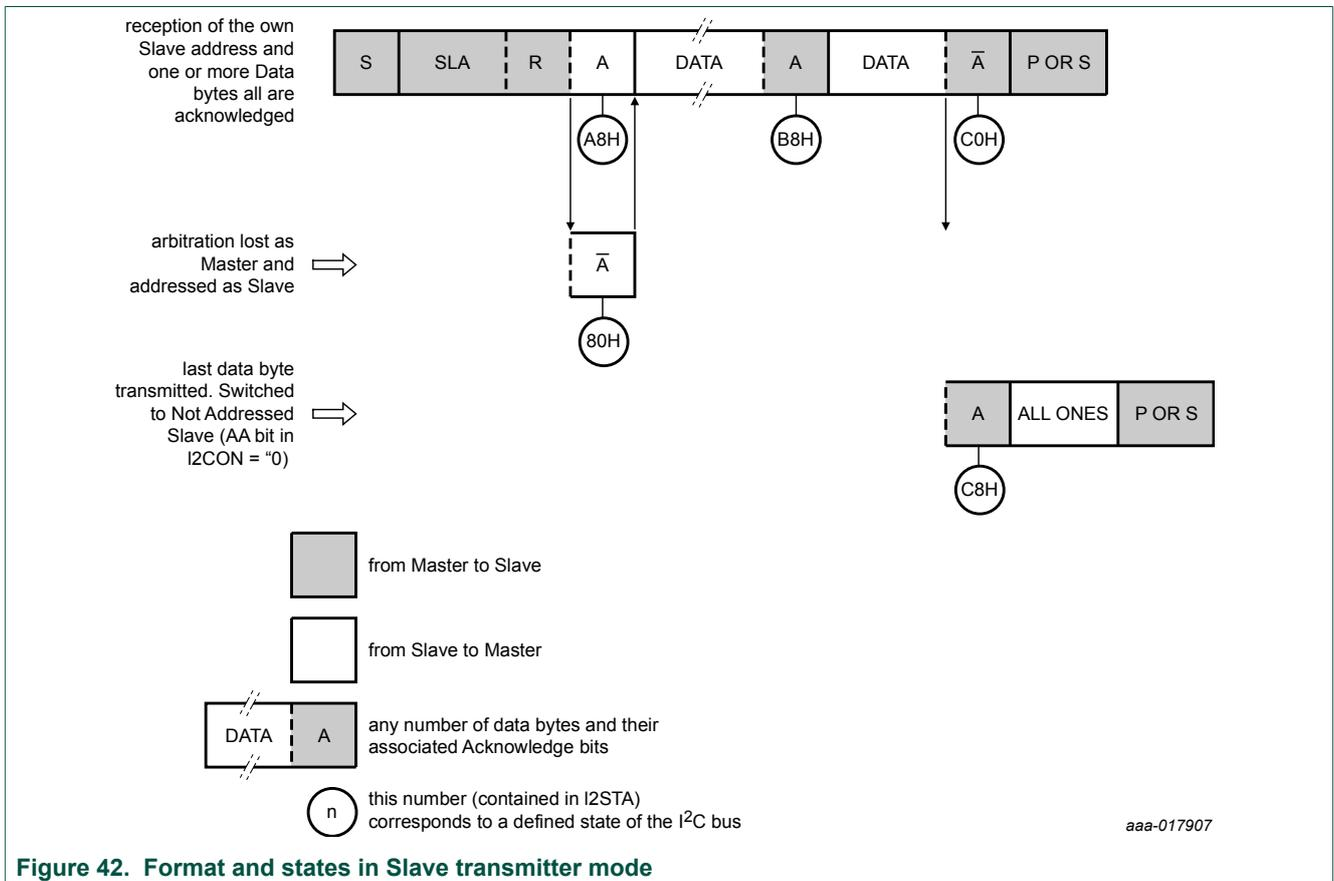

Figure 42. Format and states in Slave transmitter mode
In the Slave transmitter mode, a number of data bytes are transmitted to a master receiver (see Figure 42). Data transfer is initialized as in the Slave receiver mode. When ADR and CON have been initialized, the I²C-bus block waits until it is addressed by its own slave address followed by the data direction bit. The data direction bit must be logic 1 (Read) for the I²C-bus block to operate in the Slave transmitter mode. After its own slave address and the R bit have been received, the serial interrupt flag (SI) is set and a valid status code can be read from STAT. This status code is used to vector to a state service routine, and the appropriate action to be taken for each of these status codes is detailed in Table 225. If arbitration is lost while the I²C-bus block is in the Master mode (see state 0xB0), the Slave transmitter mode may also be entered.